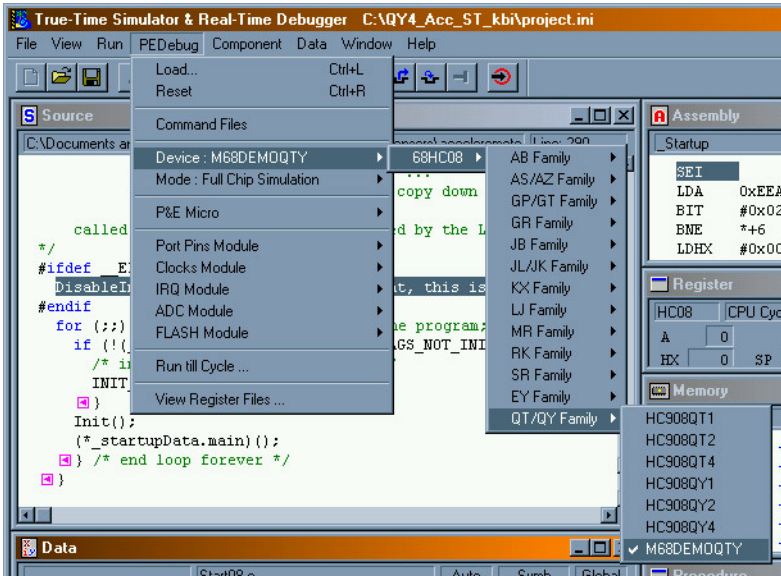

Figure 1-8. PEDebug Pulldown Menu for Device and Mode Selection
- From the PEDebug pulldown menu select Device: M68DEMOQTY. (Device:HC908QT4 → 68HC08 → QT/QY Family → M68DEMOQTY). See Figure 1-8